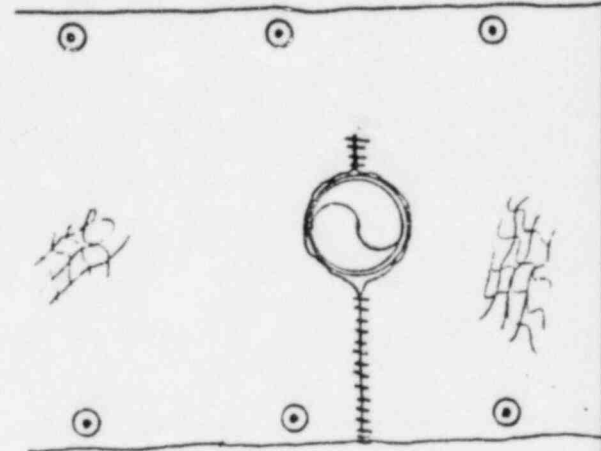

FIGURE 2
- 6.1.3 Fill any gaps in the ceramic fiber fill with additional fiber and sew the outer Siltemp material together. (See Figure 2) Stiches shall be no more than 1/2" apart.